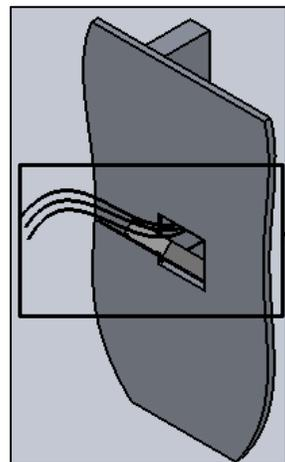

FIG. 13- DRIVER PLATE ASSEMBLY
- Slide DRIVER PLATE into the box with the driver facing rearward as shown in FIG. 13. As you slide the plate in, make sure you pull the BUILDING SUPPLY connections through the large hole in the DRIVER PLATE and other wires will already be through center hole.